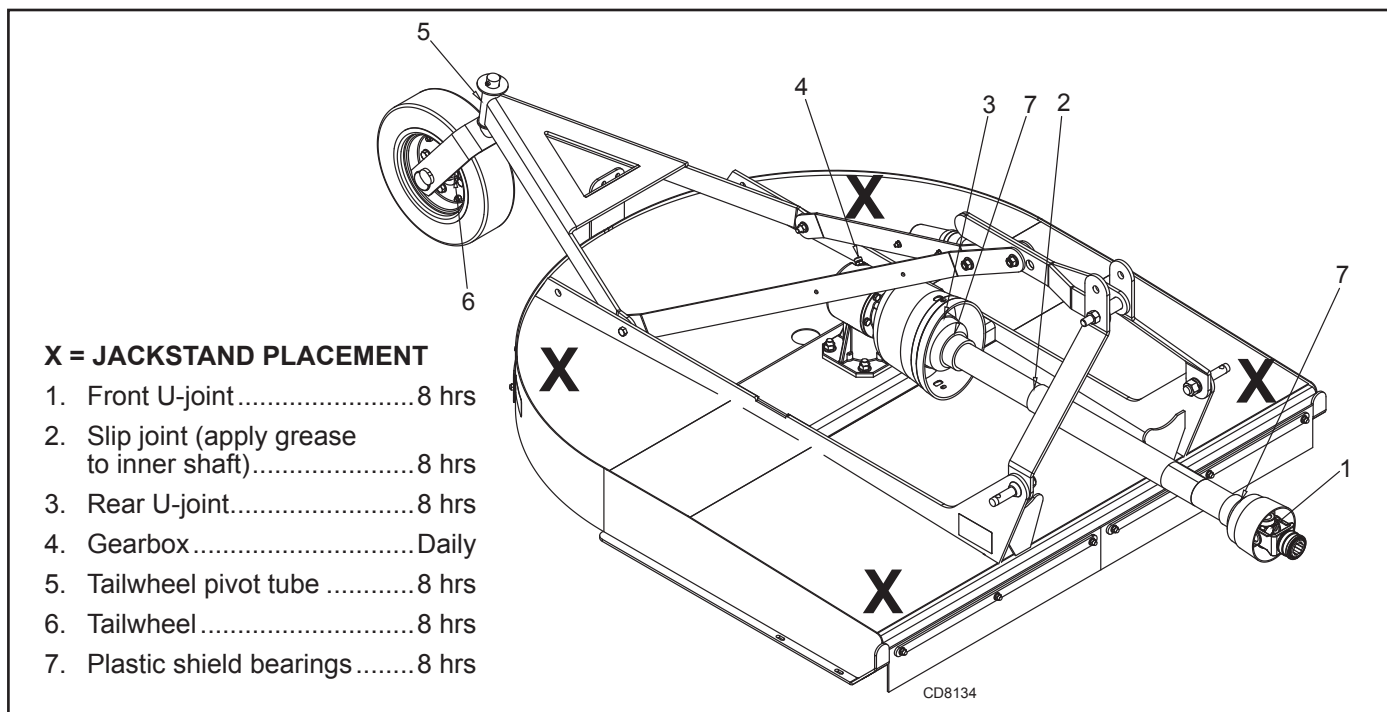

Figure 10. Jackstand Placement and Lubrication Points
2. See Figure 10 for lubrication points and frequency or lubrication based on normal operating conditions. Severe or unusual conditions may require more frequent lubrication.
- If blade pin (7) is seized in crossbar and extreme force will be needed to remove it, support crossbar from below to prevent gearbox damage.
2. Raise cutter and block securely (see Blocking Method, Figure 10).
3. Align crossbar (1) with blade access hole in the cutter frame. Remove blade pin nut (5) and lock washer (4). Carefully drive pin (3) out of crossbar.